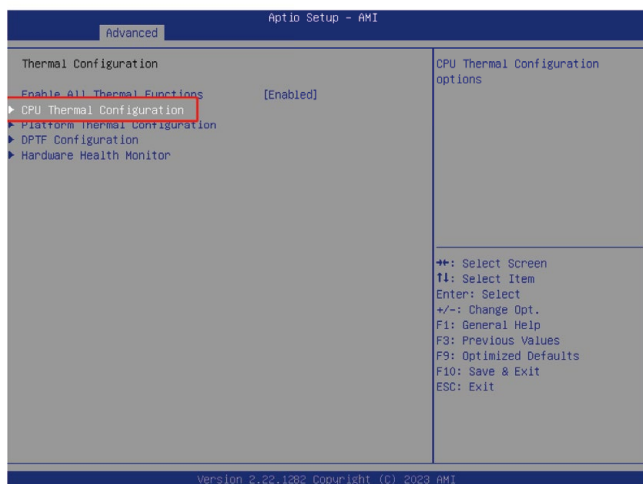

Figure 2-9-4
④ Press the ↓ key to select CPU Thermal Configuration and press Enter. Figure 2-9-4.